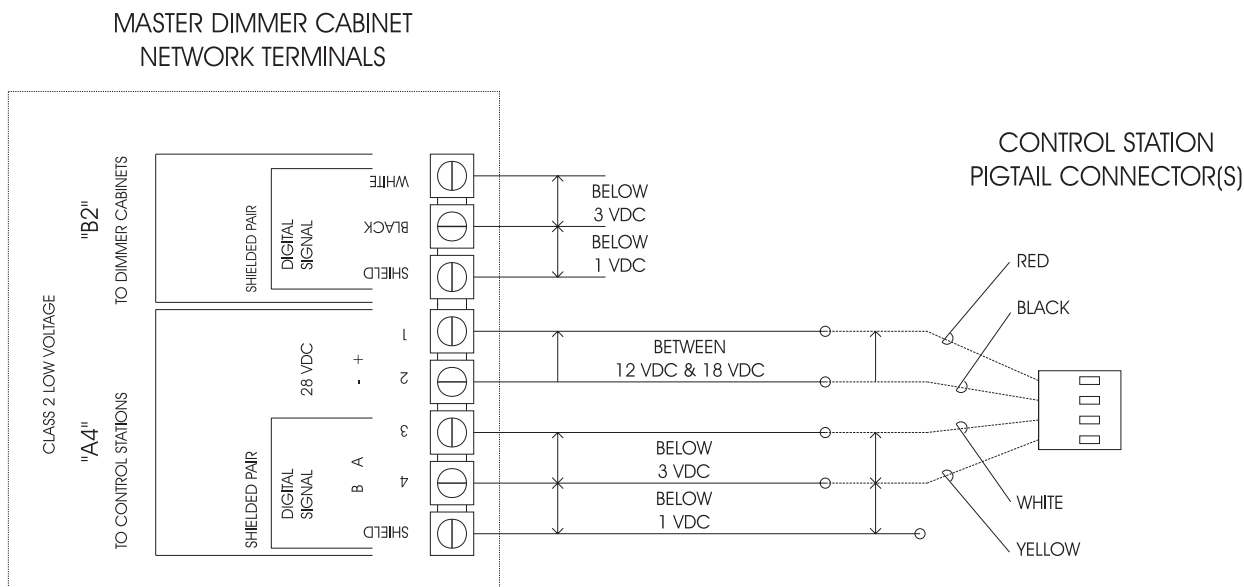

Figure 7 - Test Points and Correct Network Voltages
- a) With the main lugs and control breaker (#20) energized, measure the DC voltages between the network terminals in the master dimmer cabinet and at the control station network pigtail connectors. At this stage, the pigtail connectors are still disconnected from the back of the station. If the voltages you measure are not within the range shown below in figure 7, immediately turn off the control breaker and verify field wiring connections. See troubleshooting guide if there were no miswires found or if not enough voltage was present on red and black wires. If the voltages you measure are within the ranges shown, turn off control breaker #20, attach pigtail connectors to each station, then turn on the control breaker (#20) and proceed to step2. See Figure 7 below.